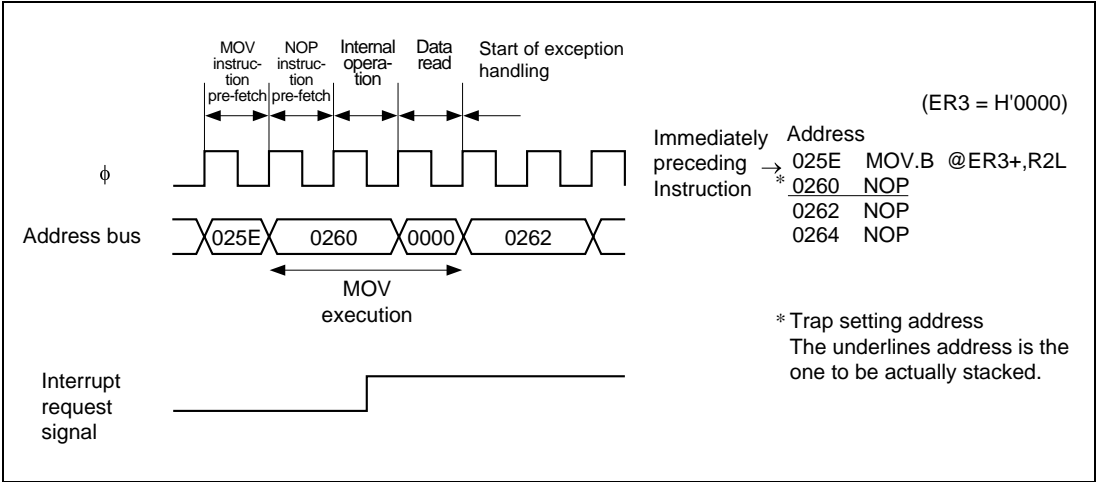

Figure 27.2 Basic Operations (1)
If the instruction to trap immediately follows the branch instruction or the conditional branch instruction, operation may differ, depending on whether the condition was satisfied or not, or the address to be stacked may be located at the branch. Figures 27.2 to 27.22 show specific operations.
- (1) Figure 27.2 shows the operation when the instruction immediately preceding the trap address is that of 3 states or more of the execution cycle and the next instruction prefetch occurs in the state before the last 2 states. The address to be stacked is 0260.